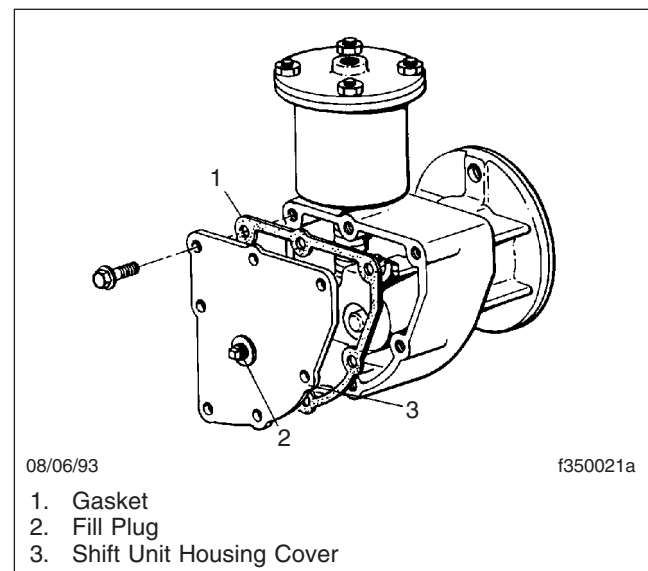

Fig. 6, Two-Speed-Axle Shift Unit
1. Clean the oil fill plug and the area surrounding it. Remove the fill plug. See Fig. 6.